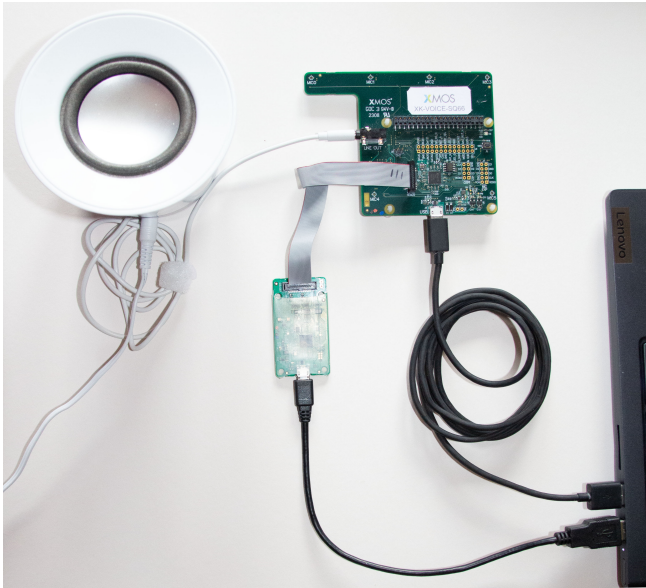

Fig. 2.1: XK-VOICE-SQ66 development kit in UA configuration
3. Connect an XTAG-4 debug adapter to the setup computer via USB, and connect it to the XK-VOICE-SQ66 development kit using the supplied ribbon cable. The cable should be plugged into XSYS2 connector on the XK-VOICE-SQ66 development kit. Fig. 2.1 below shows the UA configuration of the XK-VOICE-SQ66 development kit